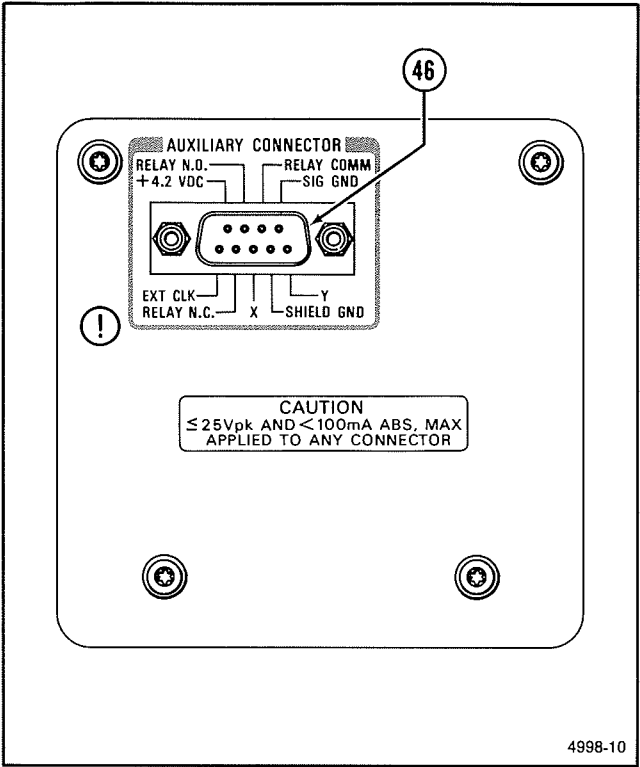

Figure 3-7. Side panel.
The standard side panel includes one AUXILIARY CONNECTOR. Refer to Figure 3-7 for the location of item 46.